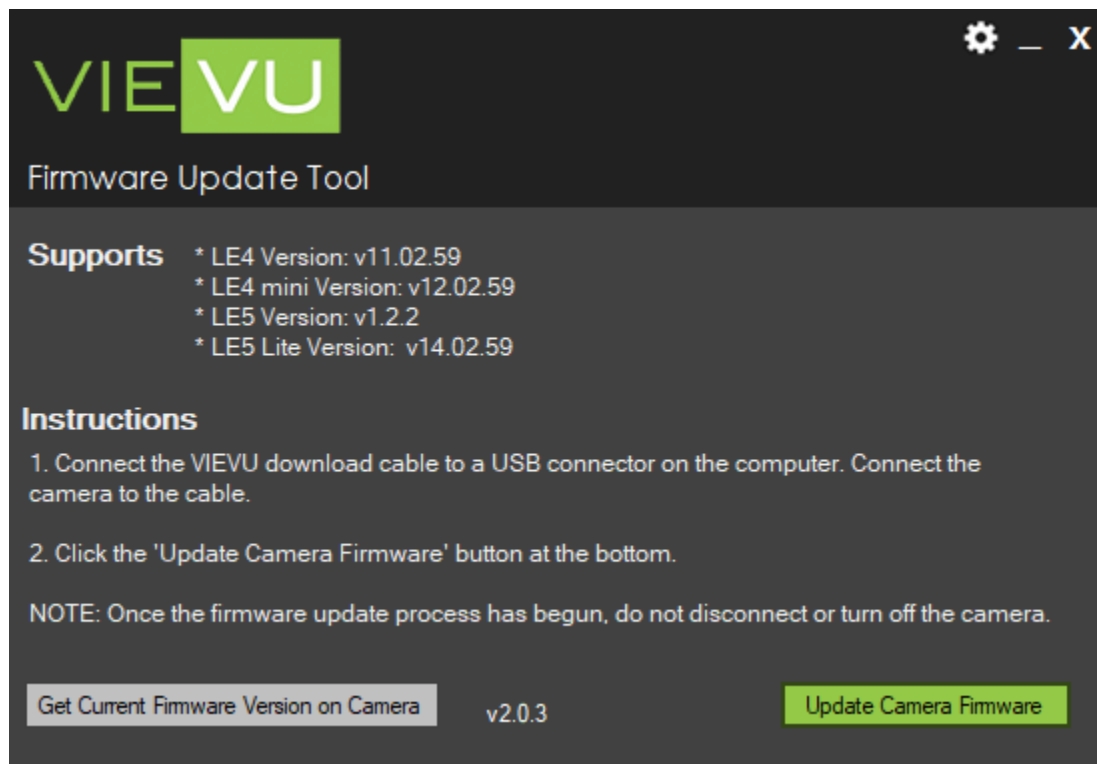

Figure 5
4. Open the executable file from a windows File Browser (Figure 5).